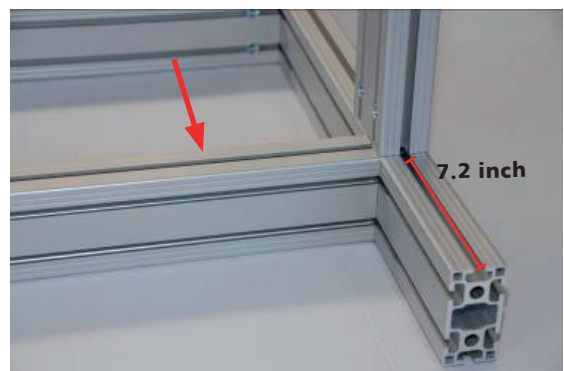

fig. 3.1-12
Step ⑩ Now pull up the last loose frame base profile **A1b** towards you. The distance between the ends of the projecting profiles **A1a** and the front edge of **A1b** has to be **183 mm | 7.2 inch**. Strongly tighten the profile connectors of the frame base profile **A1b** (ca. 25 Nm), (**fig. 3.1-12**).